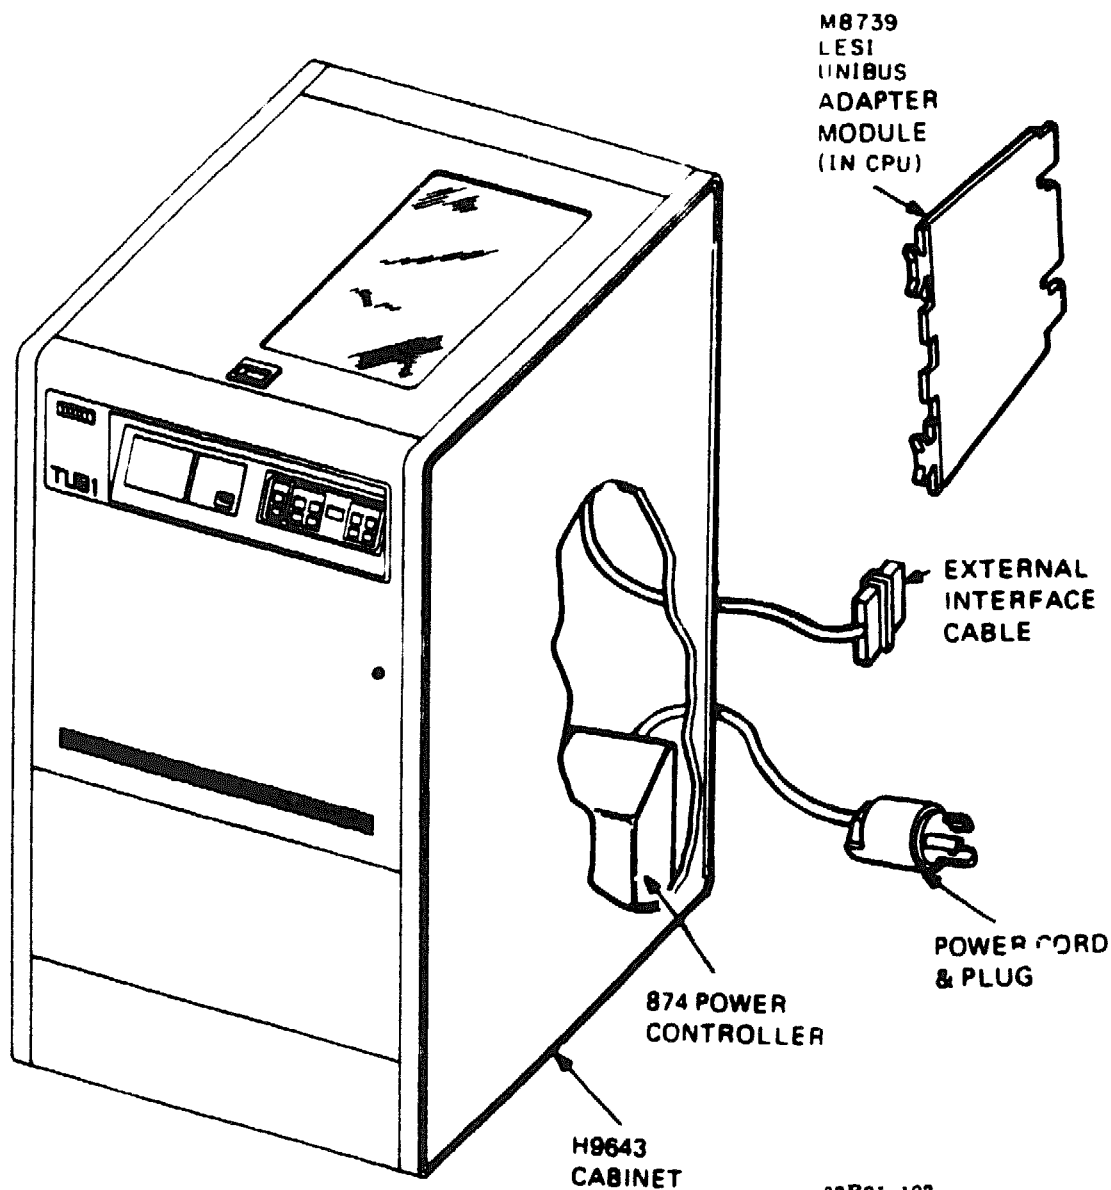

Figure 1-1A. TU81 TAPE SUBSYSTEM
- o The TU81 subsystem consists of the tape drive and UNIBUS interface. The TU81 connects directly to the host through the Low-End Storage Interconnect (LESI) bus and UNIBUS adapter, and uses Tape Mass Storage Control Protocol (TMSCP) to communicate with various DEC components (see Figures 1-1A and 1-2A).